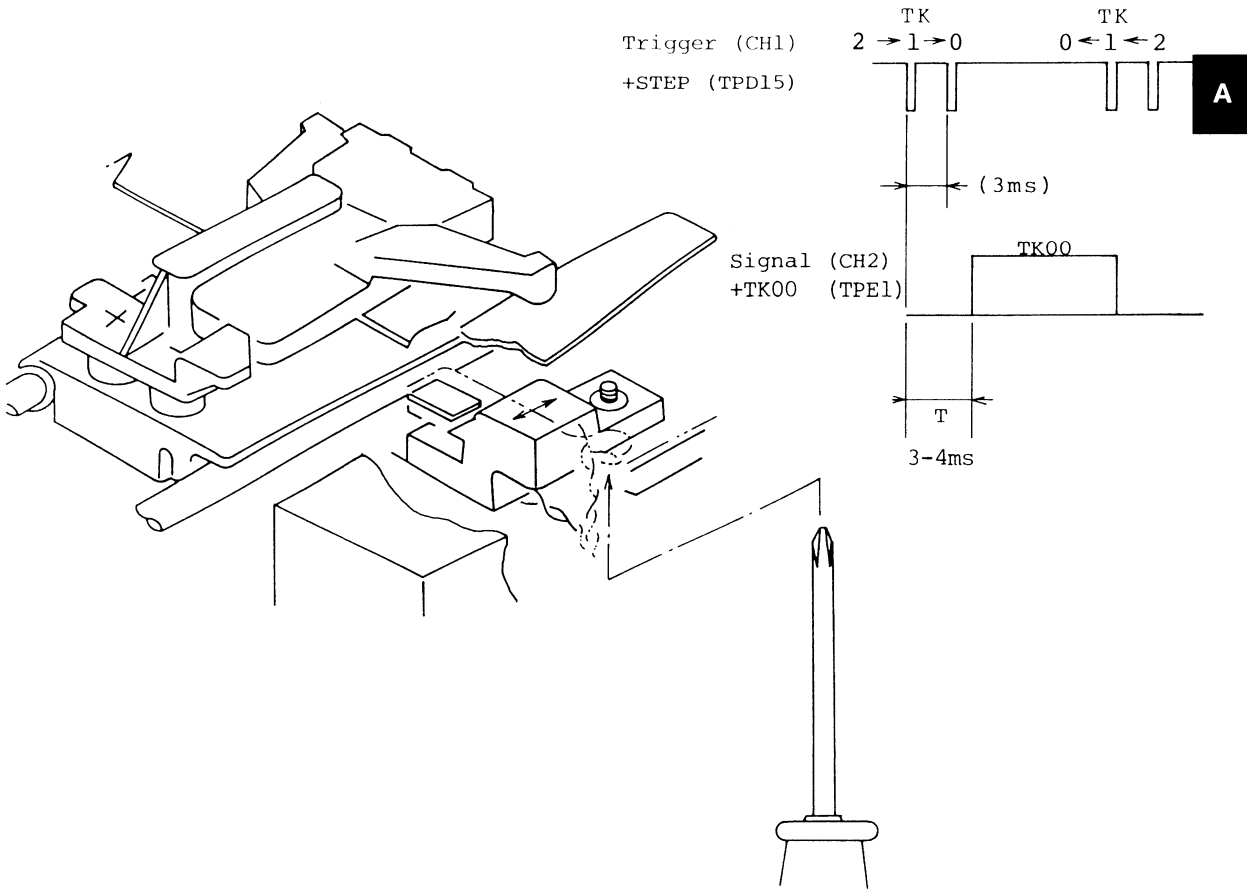

FIGURE 5
- 2)-3 Repeat seek between TK00 and 02 (see Figure 5).